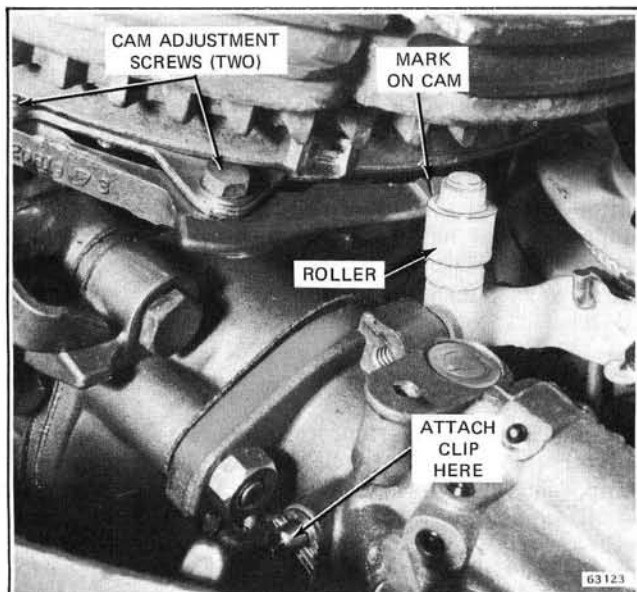

Figure 3-23. Synchronizing Marks on Cam
b. Attach clip to end of throttle shaft opposite the cam follower linkage. See Figure 3-23.
c. Advance throttle grip until center of cam follower roller is within the raised marked area on the throttle cam. See Figure 3-23. At this point throttle shaft should just begin to rotate. If not, adjust as follows: Loosen two cam screws (see Figure 3-23) and adjust cam in or out as necessary. Tighten screws and check operation. Throttle shaft should start to rotate as center of roller aligns within the wide mark on the throttle cam.